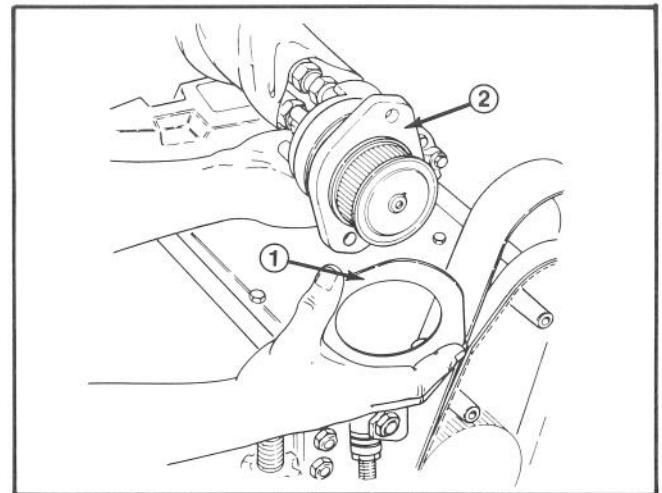

Figure 11
- B. Discard shipping cover and install the drive plate shield onto the reel drive motor flange (Fig. 11). Be sure the widest portion of the shield is at the top.